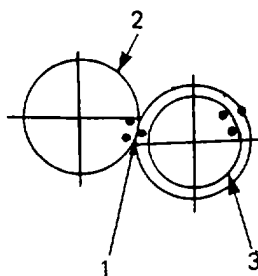

Figure 6-17. Timing Marks
- b. Refer to Figure 6-17 Make sure the timing marks (1) on the balancer gear (2) and the crank gear (3) are aligned.